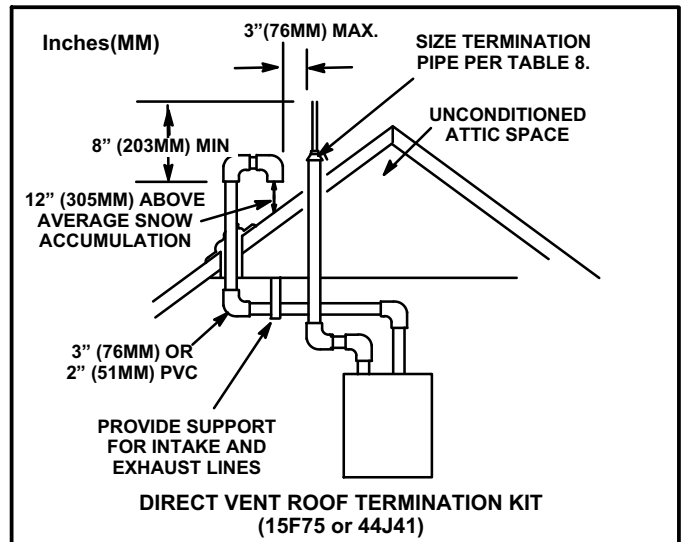

FIGURE 33
Intake and exhaust pipes may be routed either horizontally through an outside wall or vertically through the roof. In attic or closet installations, vertical termination through the roof is preferred. Figures 33 through 40 show typical terminations.
- 3 - On roof terminations, the intake piping should terminate straight down using two 90° elbows (See figure 33).